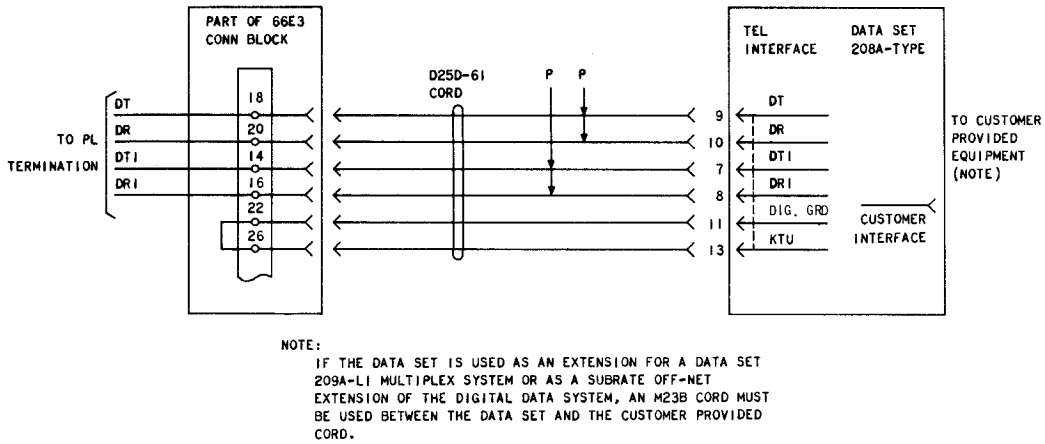

Fig. 9—DS 208A-Type Connections to Locally Engineered Private Line Termination Without DAS 828- or 829-Type
3.06 If DS 208A-type is to be installed without a DAS 829-type, DAS 828A, or DAS 828C, connection to the locally engineered termination equipment may be accomplished by using a D25D-61 cord and a 66E3 connector block. Connections are shown in Fig. 9.